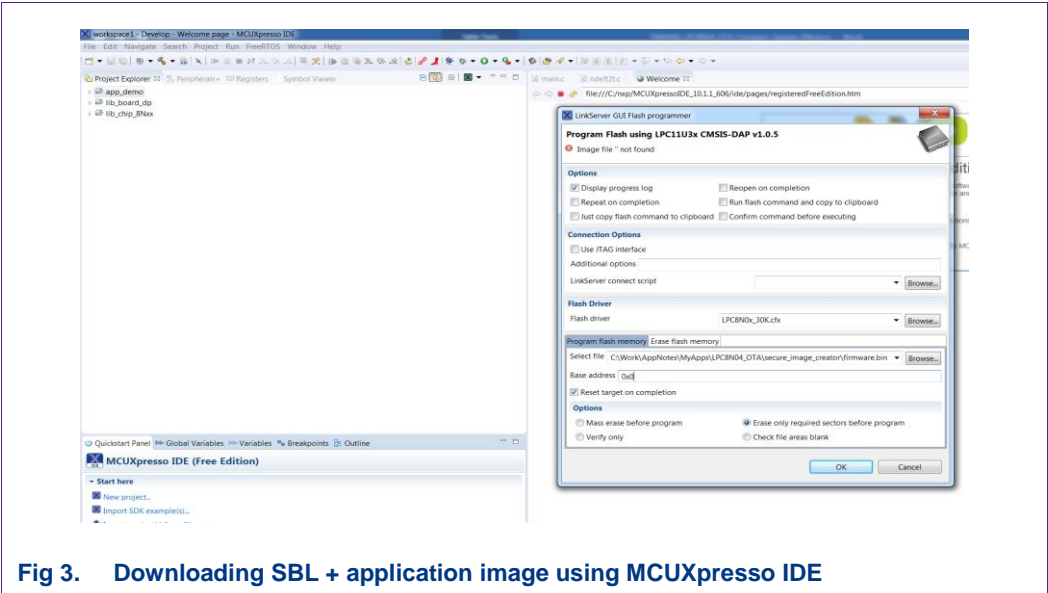

Fig 3. Downloading SBL + application image using MCUXpresso IDE
- firmware.bin – This is the combined binary of SBL + application and you flash it through the SWD using MCUXpresso Flash Programmer tool. Choose the binary and set the start address as 0x0 in MCUXpresso. See Fig 3. After flashing, power off and power on the board. The application version is 1.0.0